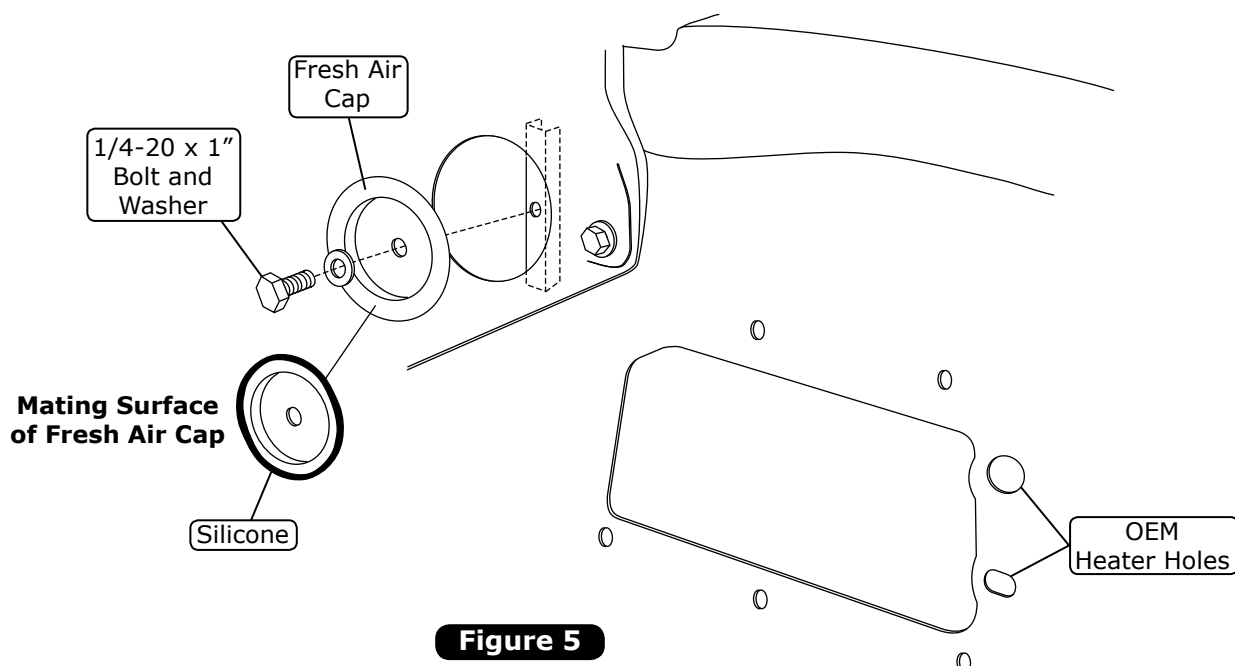

Figure 5
1. Apply a 1/4" bead of silicone around the mating surface of the fresh air cap as shown in Figure 5, below.
2. Attach the fresh air cap to the firewall using a 1/4-20 x 1" bolt and washer (See Figure 5, below).